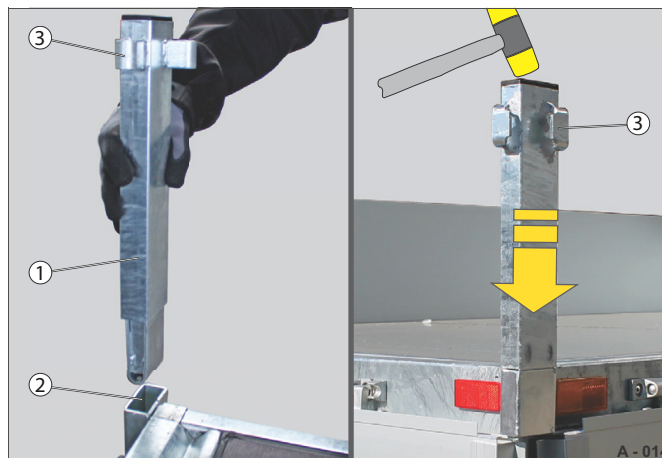

Fig. 15 Inserting the stanchions
- Insert all stanchions (Fig. 15 /1) into the stanchion pockets (Fig. 15 /2) - pay attention to the direction of the locking lugs (Fig. 15 /3).